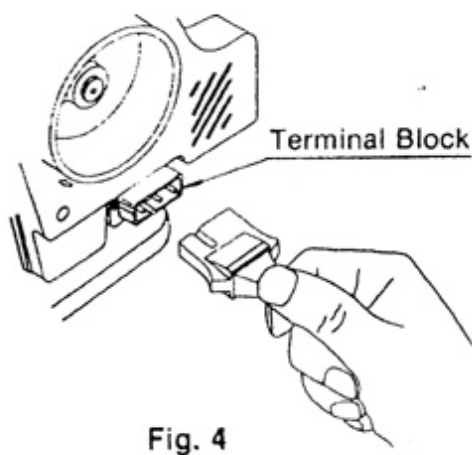

Fig. 4
C. Connection Motor Controller (Figs. 4—5)